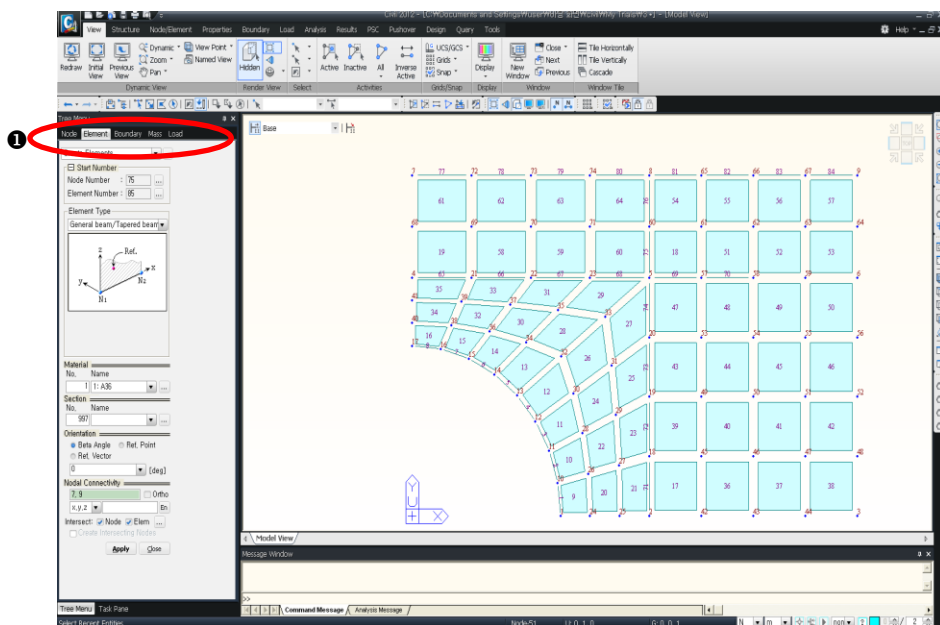

Figure 3.8 Generation of Beam Elements at the Reinforcing and Flange Plates
1. Select **Create Elements** in the functions selection field (Fig.3.8–❶).